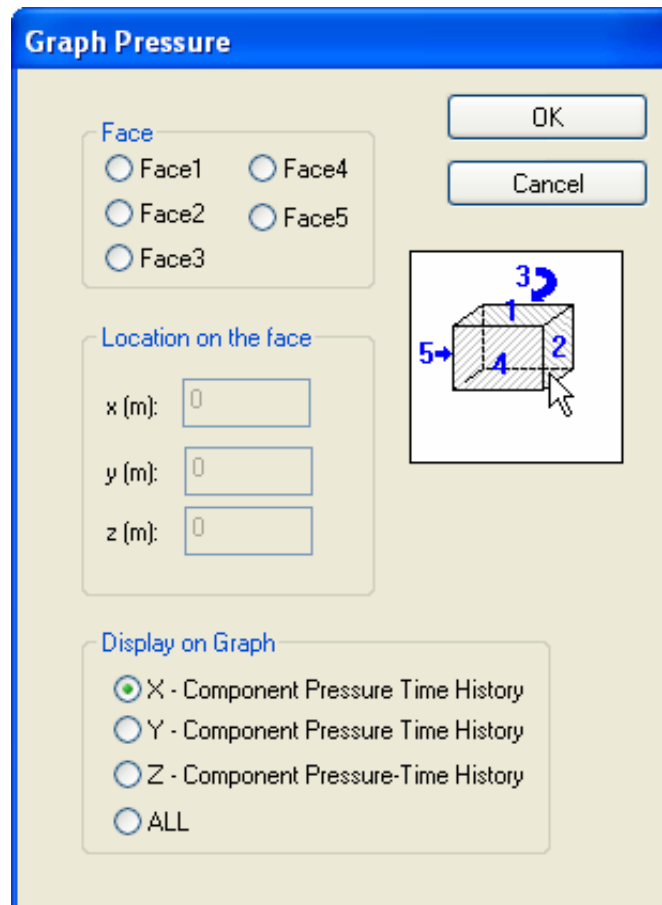

Figure 6 Graph Pressure dialog box.
1. Select the **Blast Pressures/Pressure-Time Profile** menu item. The Graph Pressure dialog box appears as shown in Figure 6.